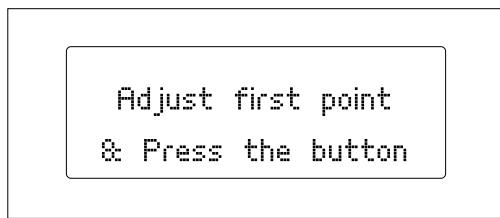

Figure 3.12 First levelling point
② The extruder will first position itself at the reference point (the rear right-hand corner), then immediately move to the first levelling point (fig. 3.12). Check the space between the base and the extruder using the sheet of paper, and (if necessary) adjust it by turning the screws located underneath the print base. Turn them to the right to move the base away from the extruder, and to the left to move it closer. The sheet of paper should just about be able to pass between the base and the extruder nozzle.